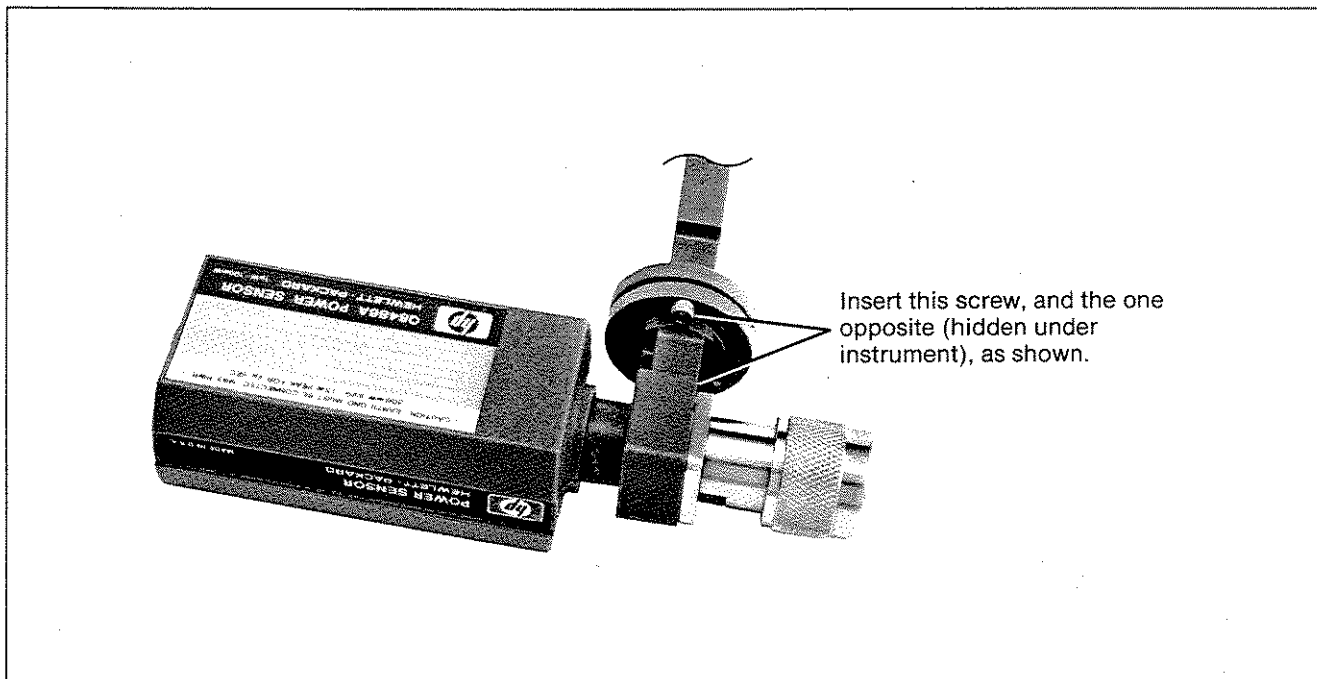
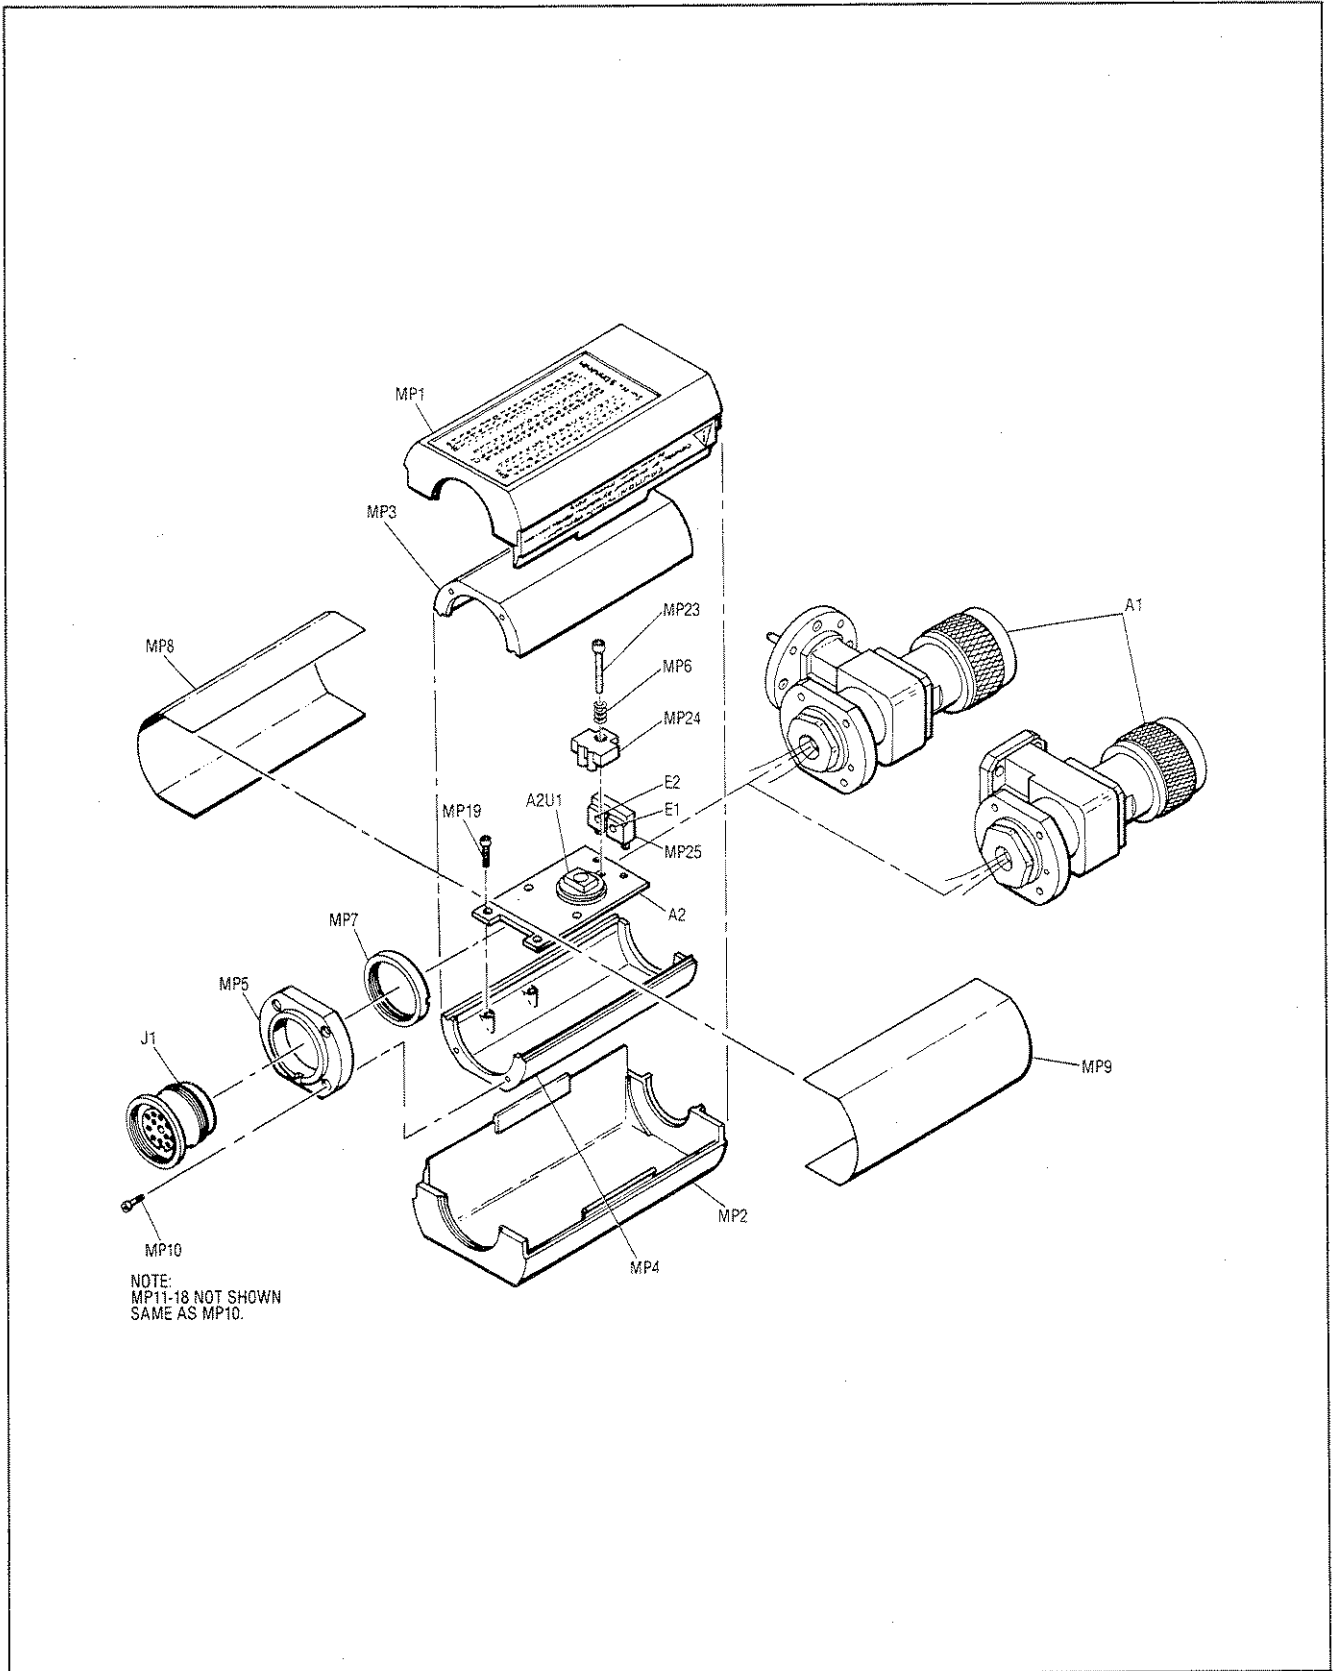

Figure 2. Q-Band Power Sensor to Waveguide Connection
Figure 3. Illustrated Parts Breakdown
2. Insert the two screws, indicated in Figure 2, from the power sensor side of the flange. The other two screws can be inserted from either side of the flange. Tighten the four screws until just finger tight.
Table 6 is a list of replaceable parts. Figure 2 is the illustrated parts breakdown (IPB) that identifies the major assemblies and chassis parts. The mounting locations of the components on the A2 Input Amplifier Assembly are shown in Figure 3. To order a part, quote the Hewlett-Packard part number and Check Digit (CD), specify the quantity required, and address the order to the nearest Hewlett-Packard office (see NOTE below). To order a part not listed in Table 5, give the instrument model number, instrument serial number, the description and function of the part, and the quantity of parts required.
Capacitors A2C2, A2C3, A2C7, and A2C8 (Figure 3) require low-temperature soldering techniques. The connection to these capacitors is a gold film deposited on a ceramic base. Molten solder causes the gold to form an amalgam with the solder so the gold dislodges from its ceramic base. Soldering must be done quickly using a low-temperature soldering iron and solder. The capacitors must be discarded if unsoldered. If integrated circuit A2U1 or transistor A2Q1 is replaced, two of these capacitors must be removed, and therefore must be replaced with new ones. The required low-temperature soldering iron and solder are as follows: